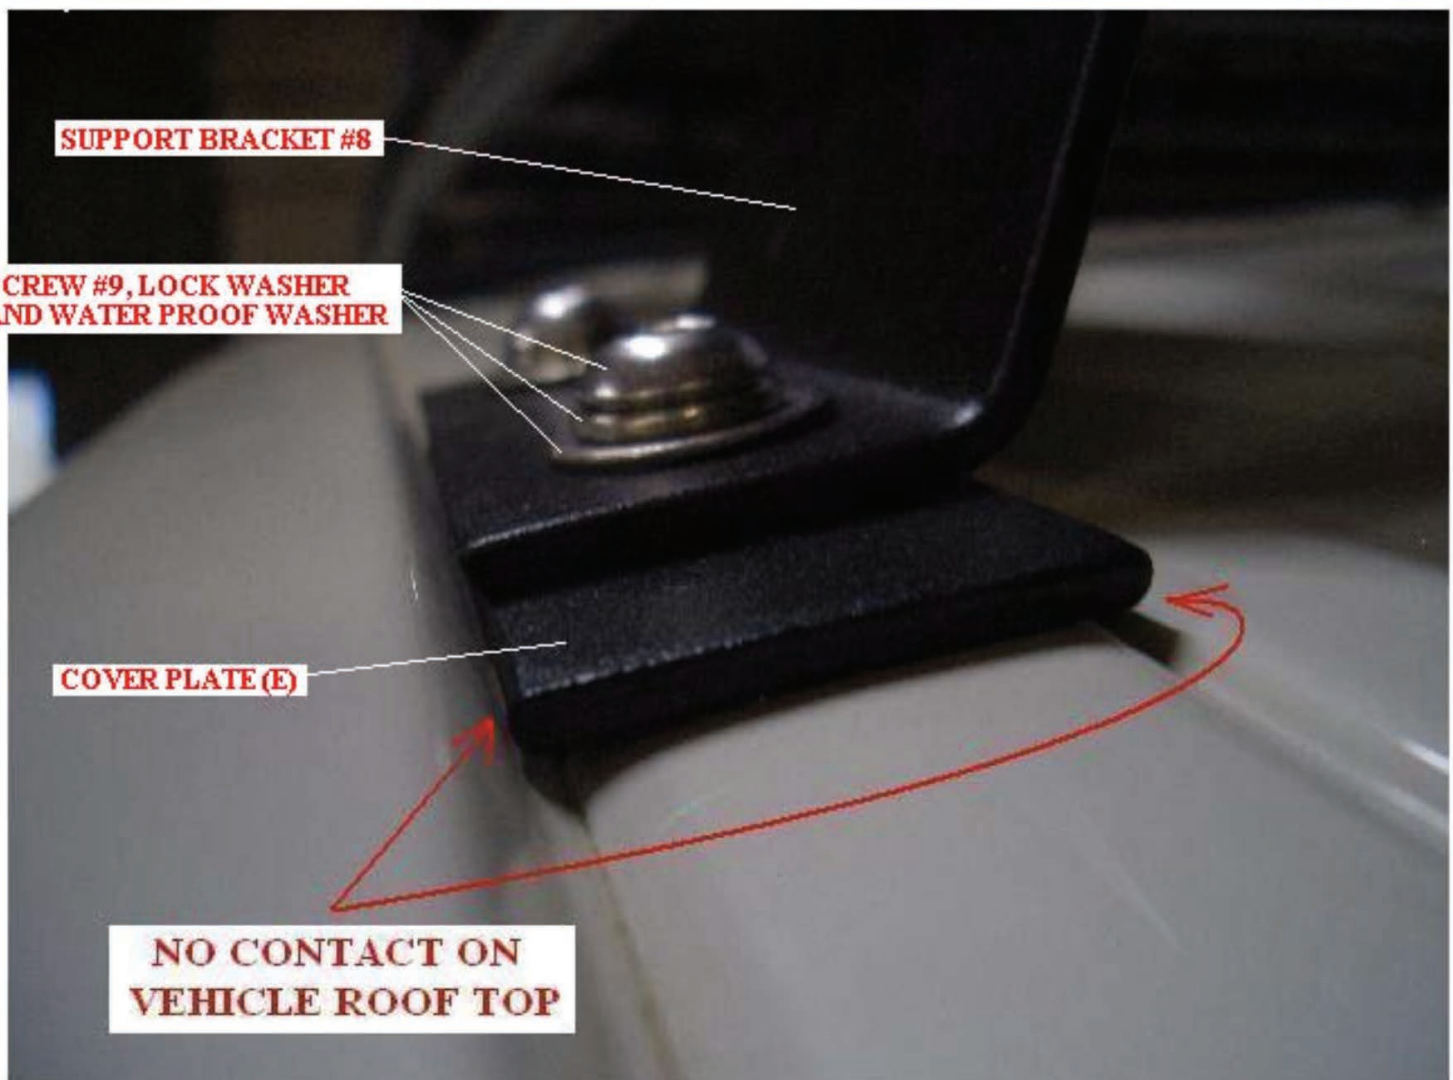
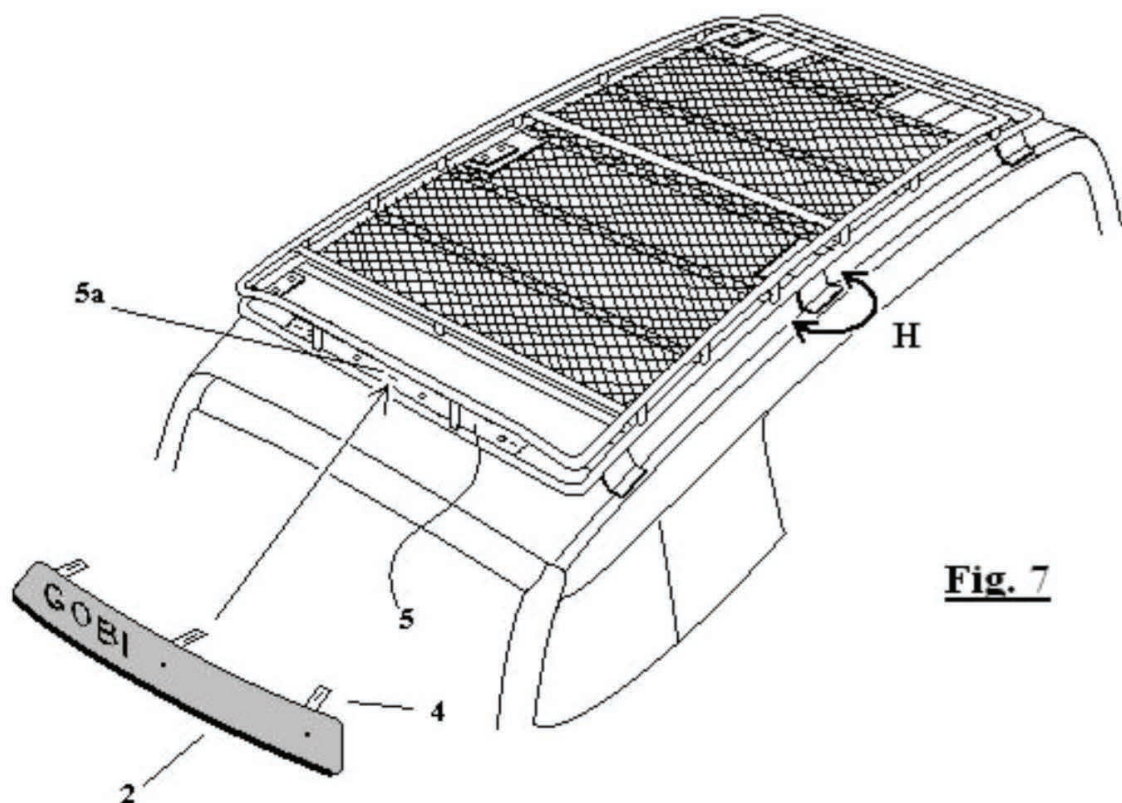

Fig. 6
Fig. 7
- 7- Refer to page 5 Fig. 4 using at least two people carefully place the Gobi roof rack (11) in position on top of all 6 Gobi support brackets (8) as shown. Install all 6 rubber pads (10) located in Bag #4 between the Gobi roof rack's welded in tabs (11a) and the Gobi support brackets (8) as shown. Using the 3/8-16 x 1" hex bolts located in Bag #4 along with a 3/8" flat washer install all 12 bolts and washers (12) through the Gobi welded in tabs (11a) then through Gobi support bracket (8). Thread all 12 3/8" nuts and flat washers located in Bag #4 to each bolt as shown on page 5 Fig. 4 (12) and snug down only at this time. Align each Gobi support bracket (8) to the roof rack and the vehicle as shown on page 8 Fig. 7 (H) and page 7 Fig. 6. Once bracket alignment is completed fully tighten each Gobi support bracket to the roof top using only the 5mm Allen wrench supplied to prevent over tightening. Final support bracket installation shown on page 7 Fig. 6. Continue by fully tightening the Gobi roof rack (11) to the support brackets as shown on page 5 Fig. 4.
- 8- Refer to page 8 Fig. 7 (2) fairing; fairing comes pre-assembled with fairing brackets (4) attached. The position of each attached fairing bracket may not be fixed at the proper height for your particular roof line. Adjustments may have to be made in order for the fairing to conform correctly to your vehicle's roof line. Begin by attaching the fairing's center bracket to the middle slot (5a) of the Gobi roof rack light bar (5) shown on page 8 Fig. 7. Use the Stainless 1/4" button head screws, flat black nylon washers and 1/4" nylock nut supplied in Bag #2. Provide approximately a 2" gap between the fairing and the Gobi rack outer tube as shown in Fig. 8a. Tighten down the center screw and nut at this time. Proceed to either the passenger or driver side and pull the fairing in the direction of the arrows in Fig. 8 letter (F) and (G) while pushing down on the fairing towards the roof top at the same time. Pull each side until fairing either makes contact with the Gobi roof rack or comes in close proximity. Align fairing bracket (4) to the Gobi light bar fairing slots at the end of the Gobi light bar (5) and insert a 1/4" button head screw and washer through fairing bracket (4) then through the Gobi light bar slot and secure the fairing in place with a 1/4" black nylon washer and nylok nut. Proceed to the opposite side and continue attaching the fairing in the same manner. Be sure that the fairing throughout its length is making contact with the roof top as snug as possible, fairing brackets may need to be adjusted either up or down and in some cases you may bend the fairing bracket to accommodate the final result. Once the fairing is in the proper position tighten all fairing brackets screws firmly. Roof rack installation is complete.